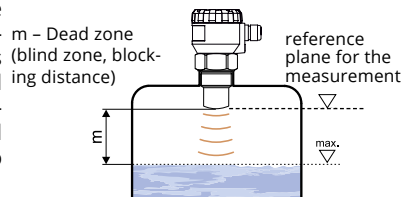

Fig. 2: Level meter dead zone
- The reference plane for the measurement is the lower edge of the transducer (Fig.2). In connection with the measurement principle, no signals **reflected** in the area immediately under the level meter can be evaluated. **The zone** (Fig. 2) determines the min. distance possible between the level meter and the highest level. The min. distances to the medium is 30 cm.